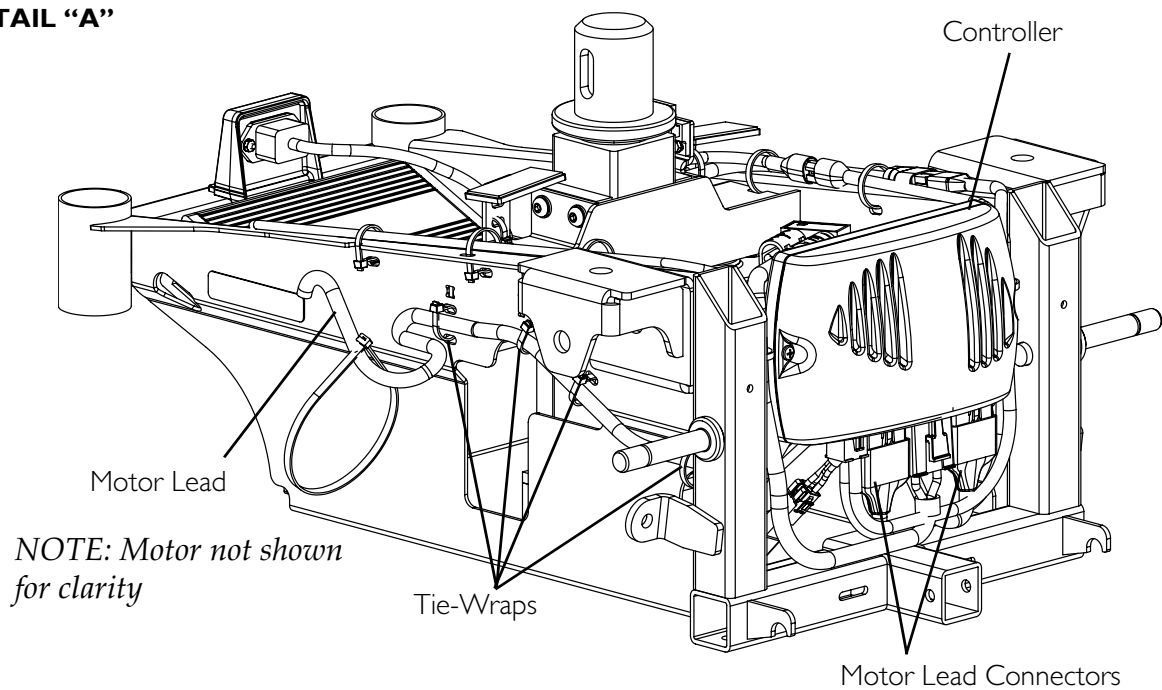

FIGURE 12.1 Removing/Installing the Motor
NOTE: For this procedure, refer to FIGURE 12.1 on page 111.
9. Using a 5 mm ball head 10-inch T-handle allen wrench, remove the three long mounting screws and three short mounting screws securing the motor to the walking beam (FIGURE 12.1).